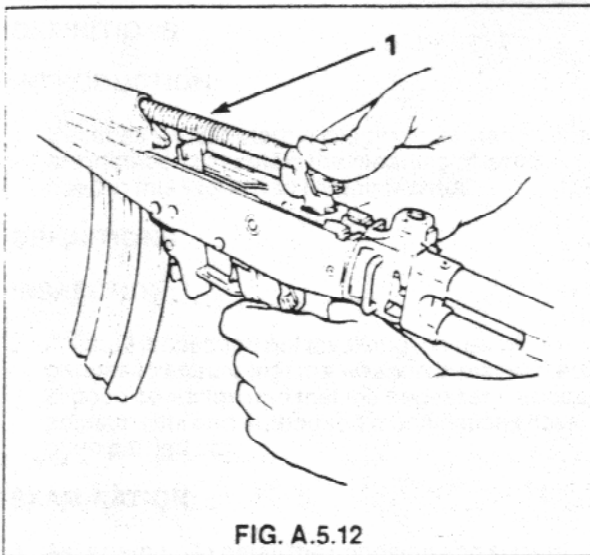

FIG. A.5.12
16. Hold return spring with the right hand, insert it's front end into the opening of the sliding mechanism. Then push it's rear end beyond the housing in the rifle's body. Make sure that the rear end of the spring is located in the rifle's body and not in the housing. See Fig. A.5.12.